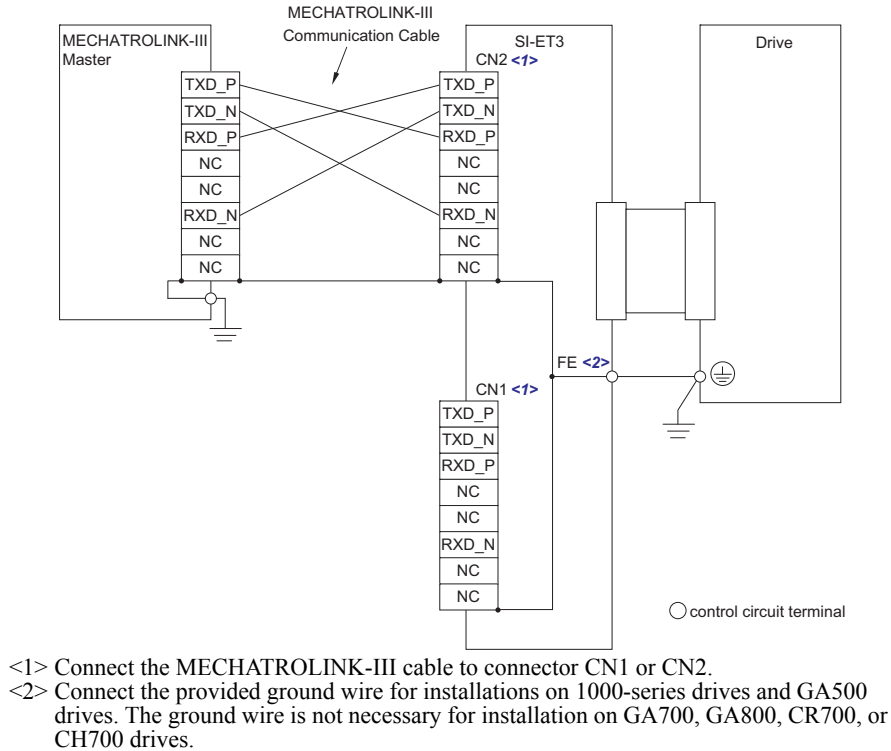

Figure 17 Option Connection Diagram
- Firmly connect the MECHATROLINK-III communication cable to option communication connector CN1 or CN2. Install MECHATROLINK-III communications cables apart from main-circuit wiring and other electrical and power lines. Ensure the cable end is firmly connected (see Figure 17). Refer to MECHATROLINK-III Communications Cables on page 22 for details.
- Select the proper MECHATROLINK-III dedicated communication cable according to Table 6. Firmly connect the MECHATROLINK-III communication cable to option communication connector CN1 or CN2. Install MECHATROLINK-III communications cables apart from main-circuit wiring and other electrical and power lines. Ensure the cable end is firmly connected (see Figure 17). Refer to MECHATROLINK-III Communications Cables on page 22 for details.